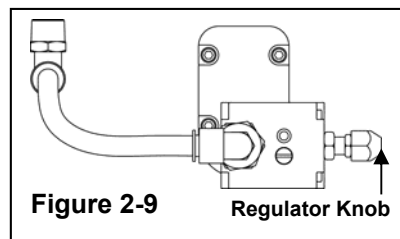

Figure 2-9
- Step 1. Deplete the relieving regulator by turning the knob counter-clock-wise until it stops. (See Figure 2-9)